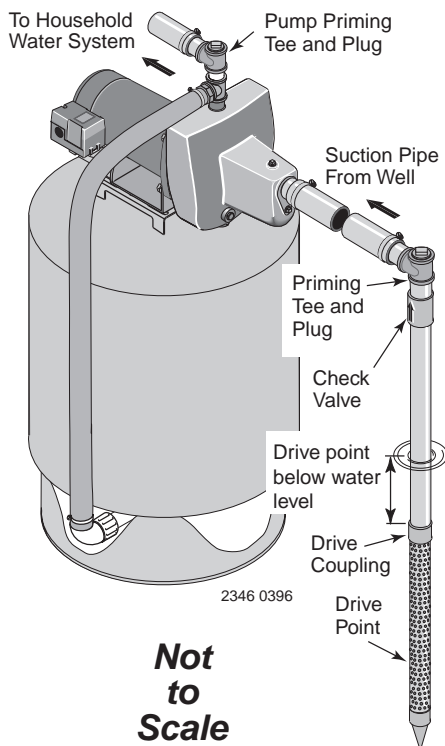

Figure 1: Driven Point Installation
WELL POINT (DRIVEN POINT) INSTALLATION (FIGURE 1)
3. Use the fewest possible fittings (especially elbows) when connecting the pipe from the well point to the pump suction port. The suction pipe should be at least as large as the suction port on the pump (include a check valve if your pump is not equipped with one – see Figure 1). Support the pipe so that there are no dips or sags in the pipe, so it doesn't strain the pump body, and so that it slopes slightly upward from the well to the pump (high spots can cause air pockets which can air lock the pump). Seal the suction pipe joints with teflon tape or a teflon based pipe joint compound. Joints must be air- and water-tight. *If the suction pipe can suck air, the pump cannot pull water from the well.* If one well point does not supply enough water, consider connecting two or three well points to one suction pipe.